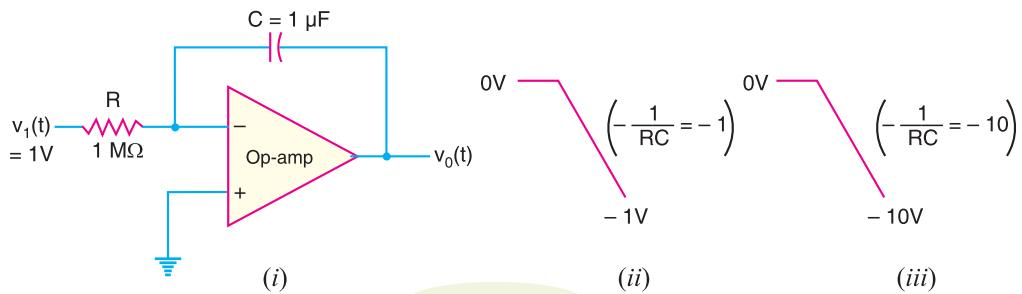

Fig. 25.82
**Output voltage.** If a fixed voltage is applied to the input of an integrator, eq. (iv) shows that the output voltage grows over a period of time, providing a ramp voltage. Eq. (iv) also shows that the output voltage ramp (for a fixed input voltage) is opposite in polarity to the input voltage and is multiplied by the factor  $1/RC$ . As an example, consider an input voltage  $v_1 = 1V$  to the integrator circuit of Fig. 25.82 (i). The scale factor of  $1/RC$  is
so that the output is a negative ramp voltage as shown in Fig. 25.82 (ii).
and output is then a steeper ramp voltage as shown in Fig. 25.82 (iii).